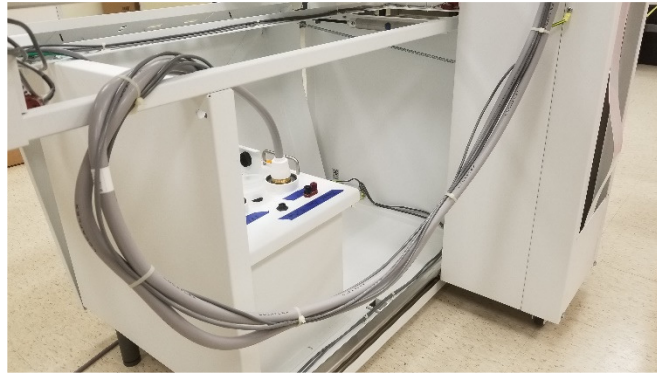

Figure 25: Cable Routing from Tubestand
3. Route the power cable through the bracket on the left or right rear corner of the table as shown in Figure 25.